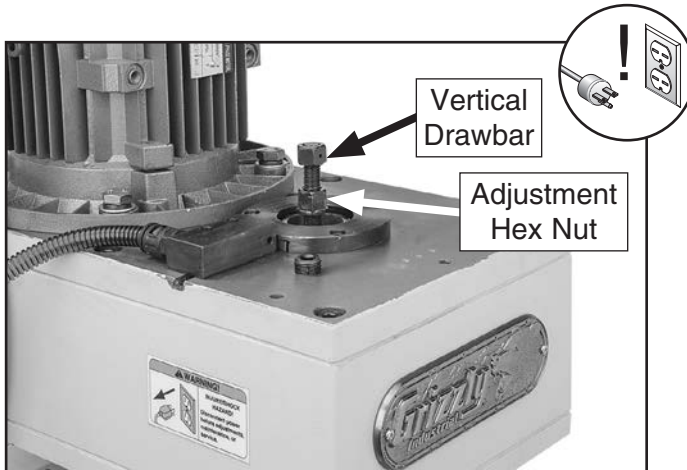

Figure 27. Vertical drawbar inserted in spindle.
4. With one hand holding tooling in place, insert vertical drawbar (longer of two drawbars) into spindle from top of head, then thread it into tooling (see **Figure 27**).
Note: Drawbar has an adjustment hex nut (see **Figure 27**) that is used to raise/lower drawbar to compensate for different tooling lengths.